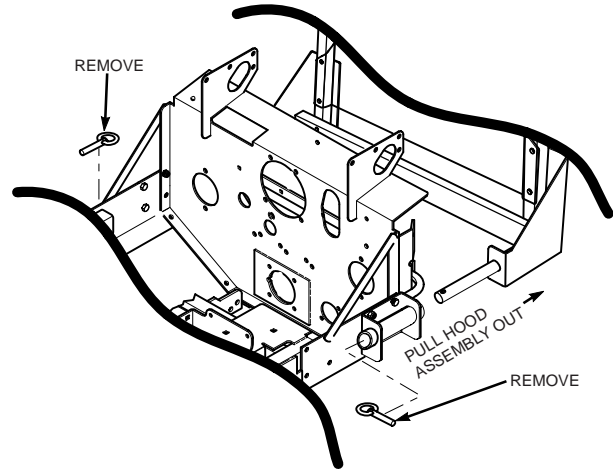

Figure 6-2
5. Remove the two (2) pins holding the hood assembly to the mounting brackets on the rear of the machine. See Figure 6-2.